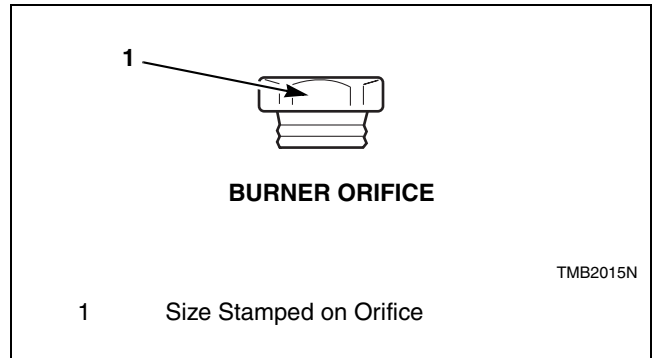

Figure 6
3. Install the new, correct orifices. Refer to *Figure 6*. Torque each to 9-10 Nm.